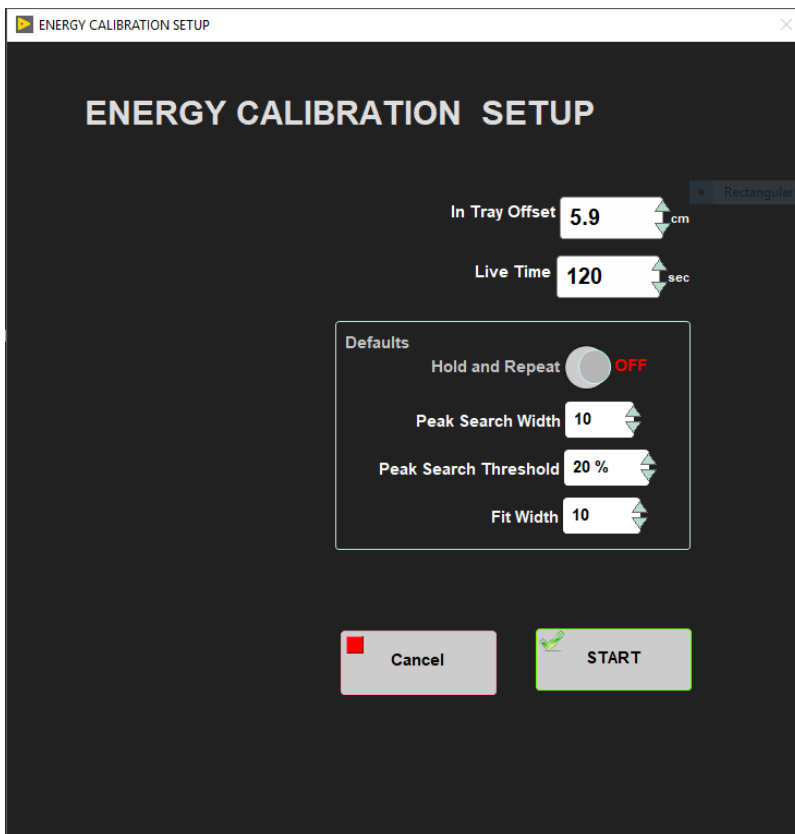

Figure 27. Energy Calibration Setup using collimated sources
- On the main IMS (left-hand) panel, go to **Instruments > NGR: Energy Calib**, the **Energy Calibration Setup** window will be open (Figure 27), check the values and click **START** to allow the calibration to commence. The calibration process takes approximately 40 minutes to complete.
3. On the main IMS (left-hand) panel, go to **Instruments > NGR: Energy Calib**, the **Energy Calibration Setup** window will be open (Figure 27), check the values and click **START** to allow the calibration to commence. The calibration process takes approximately 40 minutes to complete.